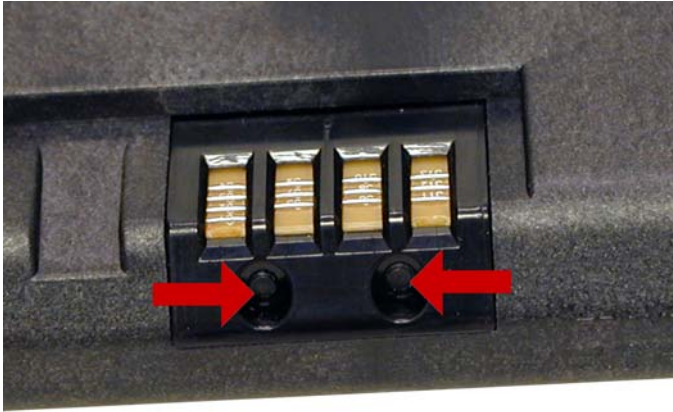

Figure 50
43) The chip is held in place by plastic rivets. To replace the chip, drill out the plastic rivets and install 2 small self tapping screws. Install the two screws before you remove the cover so that the alignment does not change. You can now remove the screws and cover to replace the chip. See **Figures 50 & 51**